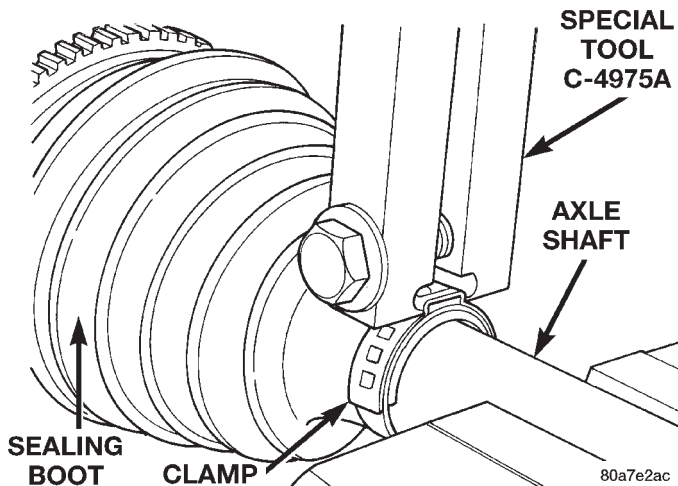

Fig. 7 Crimping Tool Installed On Boot Clamp
(4) Install axle C/V joint boot small clamp evenly on sealing boot.
(5) Position axle C/V joint boot into retaining groove in axle C/V joint housing. Then, install large retaining clamp evenly on sealing boot.
(6) Clamp small sealing boot clamp onto axle shaft using Crimper C-4975-A. Place crimping tool C-4975-A over bridge of clamp (Fig. 7).